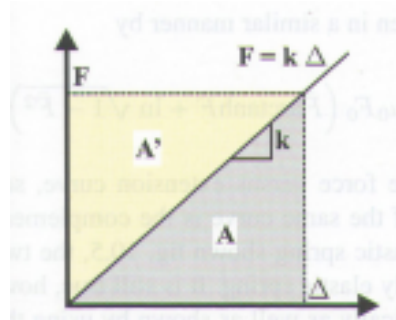

Fig. 10.5. Constitutive law a linearly elastic spring
- constitutive law : straight line in the force vs. extension plot (Fig. 10.5)